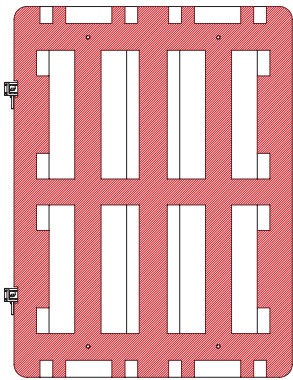

Fig. 1
2. Mark Out: Hold the box in position and mark fixing points using approved drilling locations. (See Fig. 1)